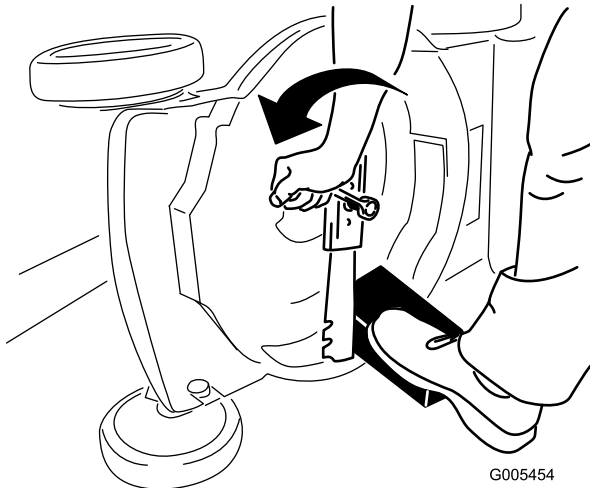

Figure 18
3. Use a block of wood to hold the blade steady (Figure 18).
4. Remove the blade, saving all mounting hardware (Figure 18).